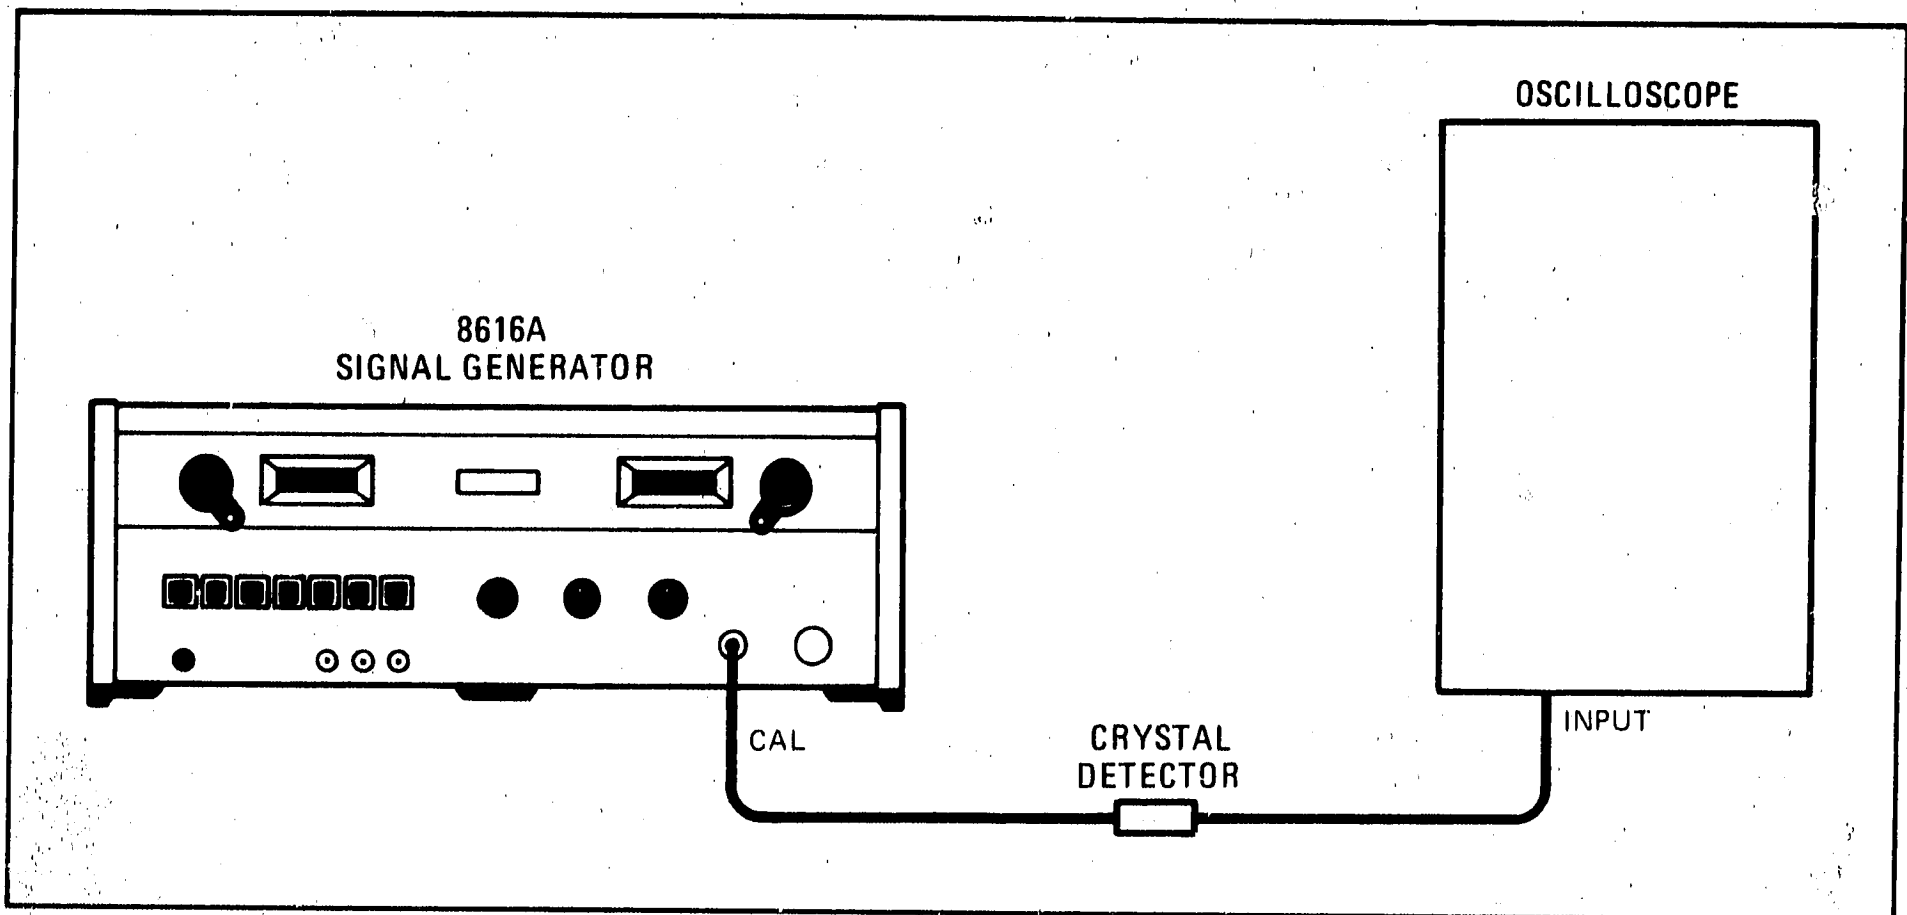

Figure 5-8. Internal Square Wave Check
a. Connect instruments as shown in Figure 5-8.